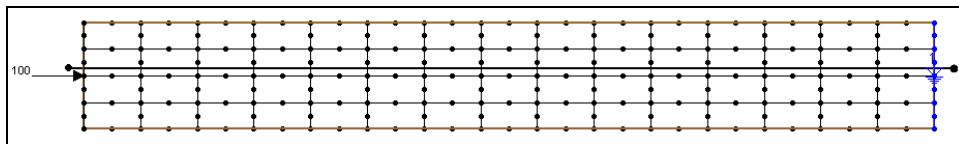

Figure 2 Mesh with Observation Arc.
4. Create an arc down the center of the flume as shown in Figure 2.